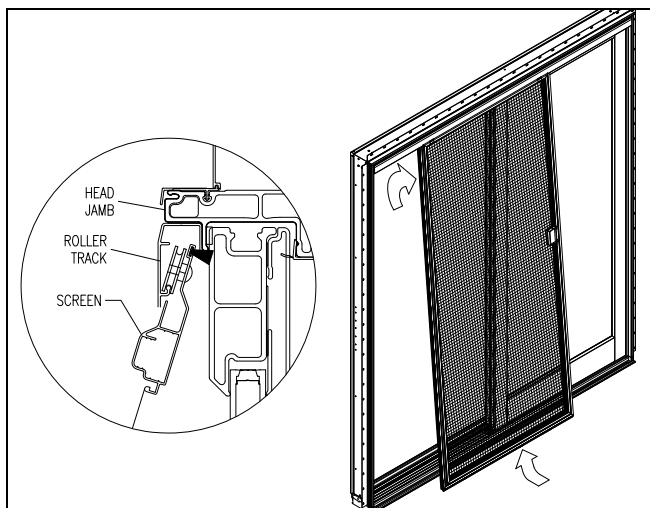

Figure 1
1. From the exterior, hold the screen with the rollers facing you while tilting the bottom of the screen panel away from the door. Lift the rollers into the screen track and pull the panel toward your body to engage the rollers in the track. See Figure 1. Make sure the rollers are seated in the screen track by moving the panel back and forth.